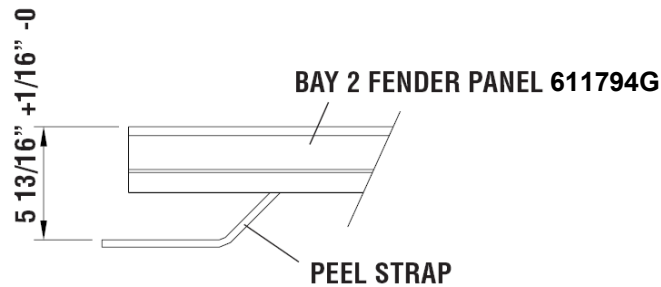

Figure 8
- b. Make sure that the gap at the end of Bay 2 Fender Panel measures  $5 \frac{13}{16}'' \pm \frac{1}{16}''$  (Figure 8). The gap can be adjusted using a large wrench.